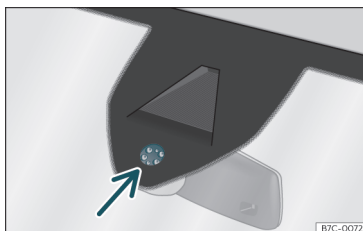

Fig. 124 Rain sensor sensitive surface
Possible causes of faults and mistaken readings on the sensitive surface >>> **Fig. 124** of the rain sensor include:
- Clean the sensitive surface of the rain sensor regularly and check the blades for damage >>> **Fig. 124** (arrow).